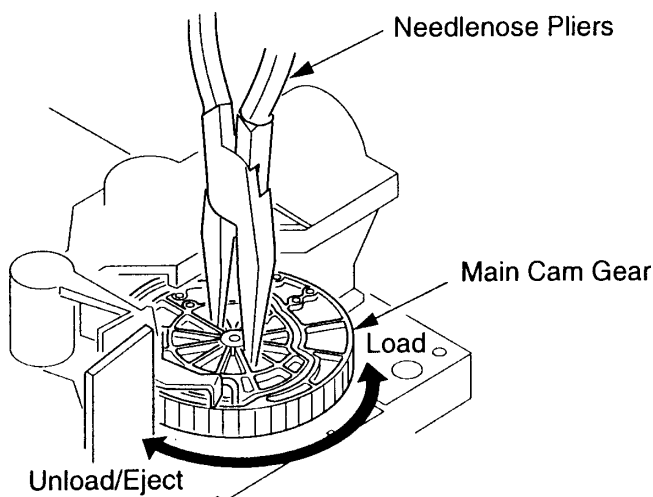

Fig. 11 - Manual Loading/Unloading of the Mechanism
Manual Loading/Unloading of the Mechanism (Figs. 11, 12, 13)
1. Turn the main cam gear counterclockwise (for loading) or clockwise (for unloading) using needlenose pliers (Fig. 11).
1. Rotate the main cam gear using needlenose pliers so that the pinch roller is separated from the shaft of the capstan rotor unit. Refer to Fig. 11 for needlenose pliers positioning.
2. Perform steps three (3) through nine (9) of Manual Method (1) procedure above.